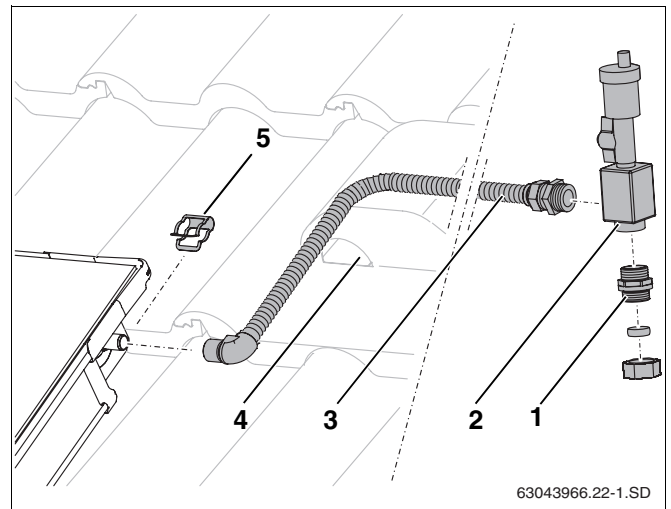

Fig. 36 Fitting the air vent valve under the roof
- ▶ Push connection pipe (Fig. 36, **Item 3**) onto the flow connection on the collector array and fix in place using bracket (Fig. 36, **Item 5**).
- ▶ Feed connection pipe together with the sensor cable through the de-airing tile (Fig. 36, **Item 4**) and through the roof insulation.
- ▶ Firmly screw connection pipe (Fig. 36, **Item 3**) and double threaded fitting (Fig. 36, **Item 1**) into air pot (O-ring gasket).
- ▶ Connect header pipe to double threaded fitting with compression fitting (Fig. 36, **Item 1**).